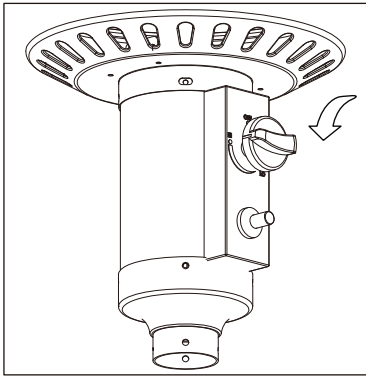

Figure 1
2. Press and turn the control knob to HI (maximum) position (anti-clockwise 90°). (Figure 1)